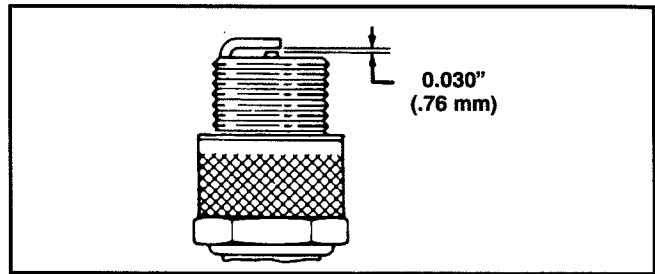

Figure 14
3. Set air gap at 0.76 mm (0.030") (Fig. 14). Install correctly gapped spark plug and gasket seal. Tighten plug firmly to 19 N·m (14 ft-lb).